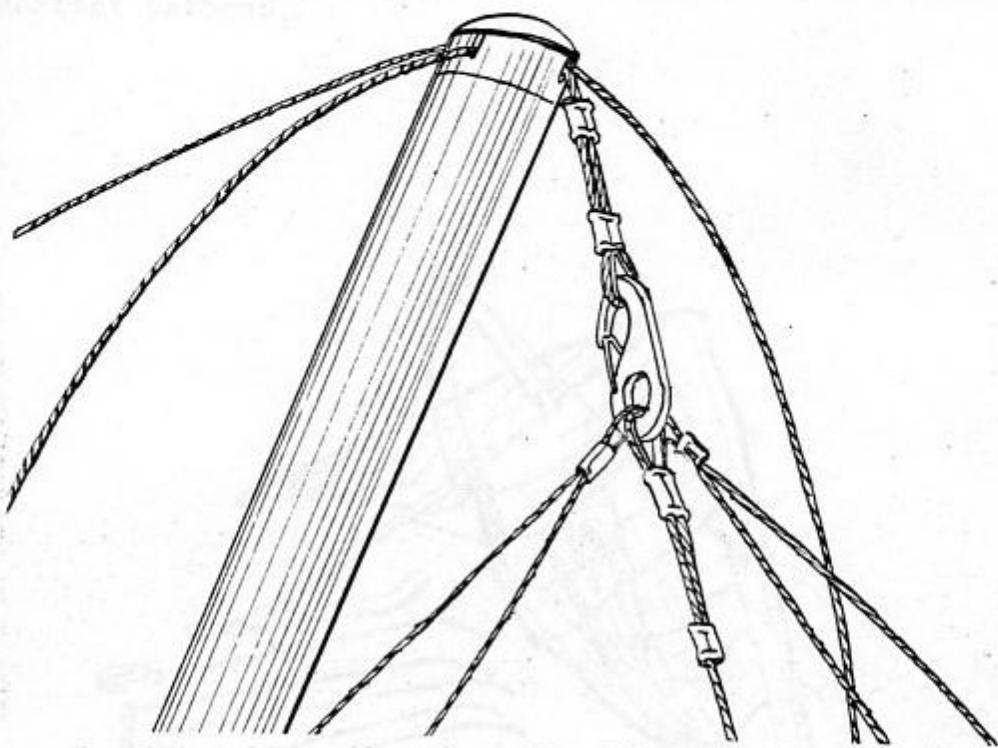

Fig. 3.2.12.
7. Attach the hook of the bottom rear wire and the washout wire to the thimble of the top front wire (Fig. 3.2.12, 3.2.13). Make sure that the hook for the wires is not inverted and the washout wires or top wires are not twisted.